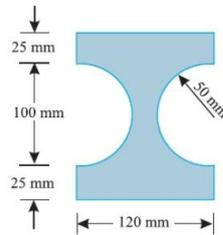

Figure 7
b) The cross section of a cast iron beam is shown in Figure 7. Determine the moments of inertia of the section about the horizontal and vertical axes passing through the centroid.